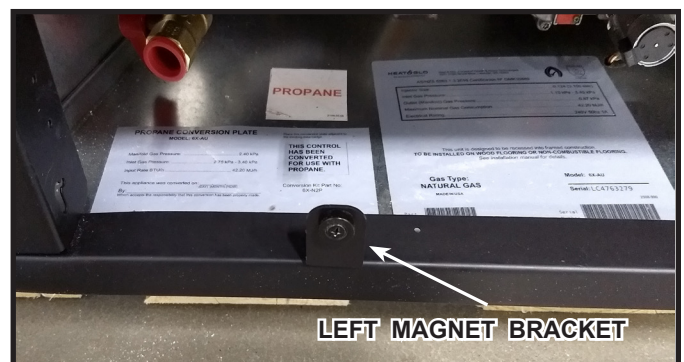

Figure 2 Left Magnet Bracket
**6X-AU Only:** If installing 6X-AU appliance, remove magnet brackets from appliance. See Figures 2 and 3.